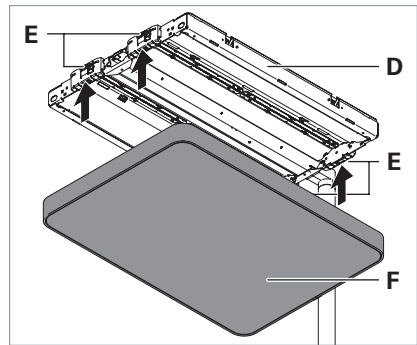

Fig. 3: Mounting the cover frame.
- Press the cover frame **F** from below on the light chassis **D** until the cover frame has locked into place in all four detent hooks **E**, see Fig. 3.